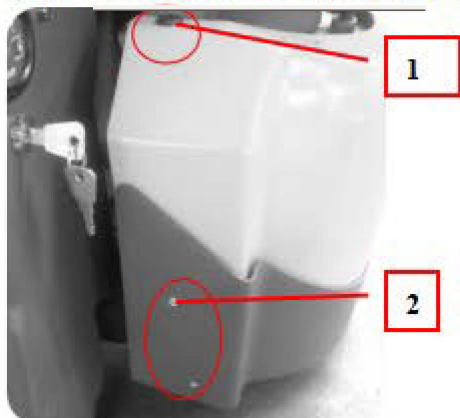

Fig. 21
- (Fig.21) Screw off screw 1 and 2, total 6 pieces, then remove the housing